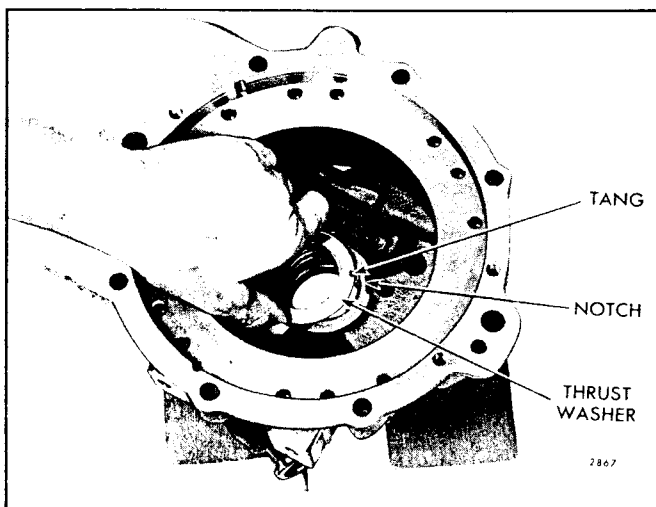

Fig. 50 - Installing Reduction Gear Input Shaft Thrust Washer in Gear Housing (1.5:1 and 2.1:1 Ratios)
- b. Lubricate the reduction gear input shaft thrust washer with engine oil; then, place the thrust washer down in the reverse gear housing with the tang on the edge of the washer in the notch inside of the gear housing as shown in Fig. 50.
**NOTE:** The thrust washer shown in Fig. 50 is not used on the direct drive, 2.5:1 and 3:1 ratio reverse and reduction gear units.